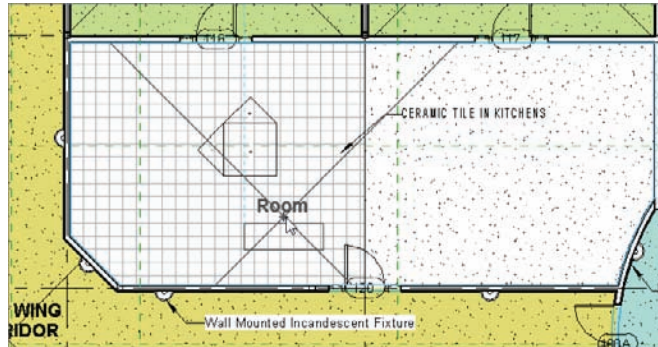

FIGURE 15.21 Place a room over the tiles (it will spill into the adjacent room).
1. In the Level 1 floor plan, zoom in on the area shown in Figure 15.21.
3. Place a room over the top of the tile flooring (see Figure 15.21).